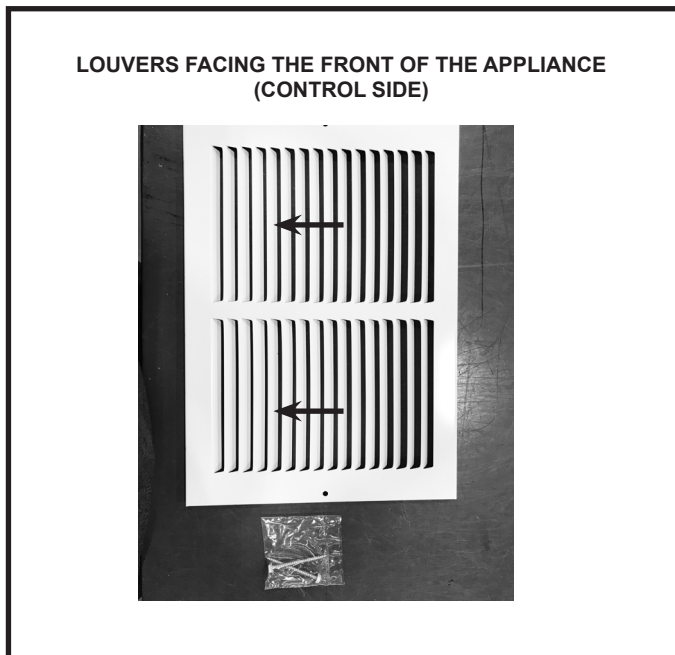

Figure 23 Correct Register Orientation
1. Install register cover with louvers facing the front of the fireplace (control side) using provided screws. See Figure 23.